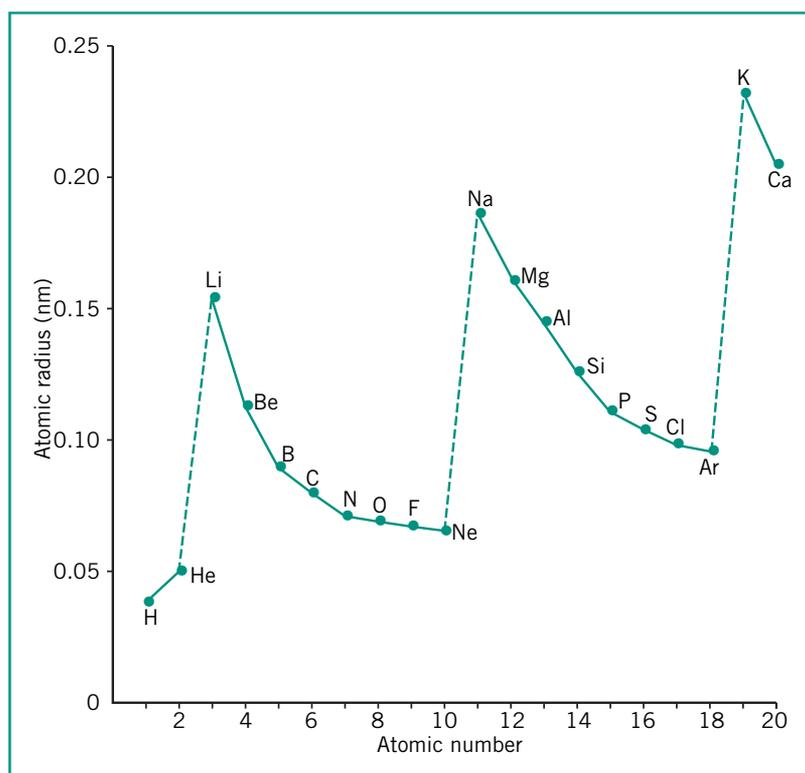
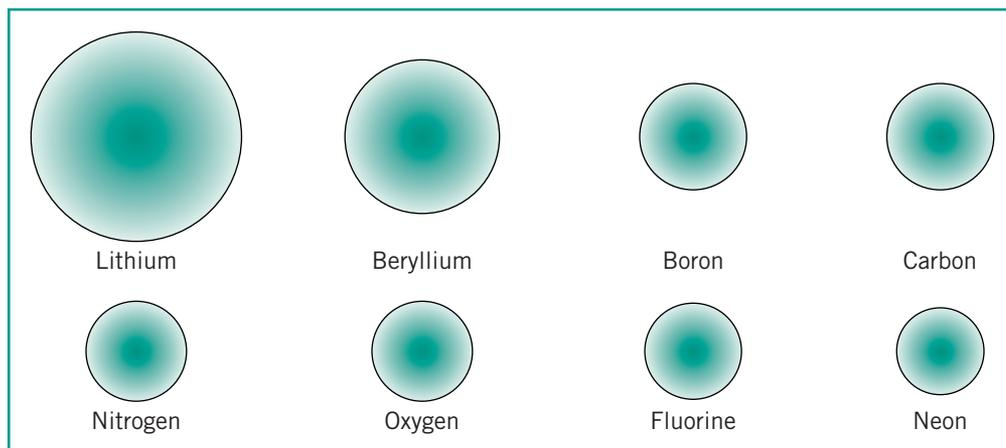

Figure 8.14 Atomic radii of the first 20 elements
Figure 8.16 The atomic size of Period 2 elements
In this section the variations in properties of the elements across periods of the periodic table will be examined. Particular attention will be paid to the first 20 elements. Table 8.4 shows values for various physical properties for the first 20 elements. Some of the information in Table 8.4 is also presented graphically in Figures 8.14 to 8.16.
By examining the data in Table 8.4 and the graphs in Figures 8.14 to 8.17, the following trends and periodic recurrence of properties are evident:
- Moving from left to right across a period, there is a general decrease in atomic radius (Figure 8.14). The radius decreases because the increasing positive charge of the nucleus attracts the outermost electrons, which are in the same energy level, closer to the nucleus (Figure 8.16).
- 5** Refer to Figure 8.14. **Identify** the elements that are found at the peaks of the graph of atomic radius as a function of atomic number. **Describe** other properties they have in common.